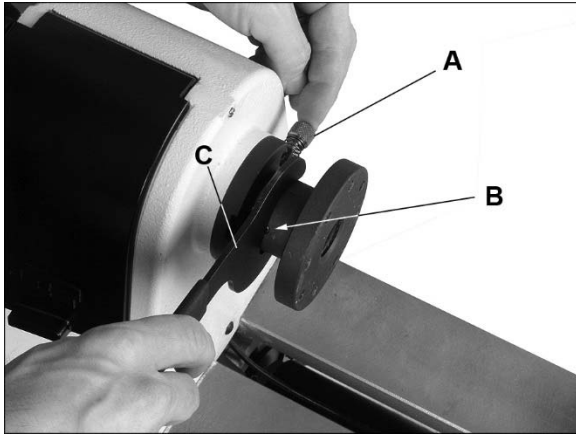

Figure 5
Referring to Figure 5:
6. Back out both set screws (B, Figure 5) in the faceplate.
7. Engage spindle lock (A).
8. Place wrench (C) over flats, and turn to unscrew faceplate.